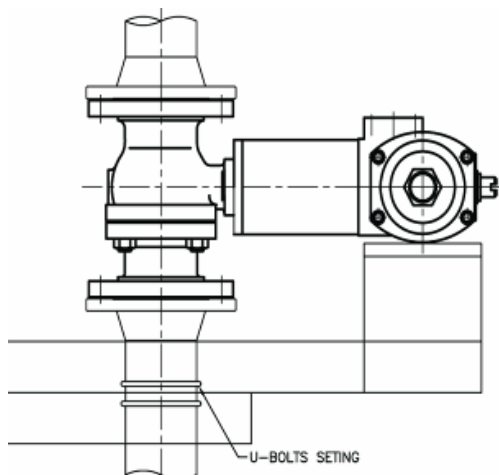

Fig 3.2 Installing Support
- F) Install the valve at right angle to the ground as much as possible. If this is impossible, attach a support to the valve before installing it. (See Fig 3.2 and 3.3)